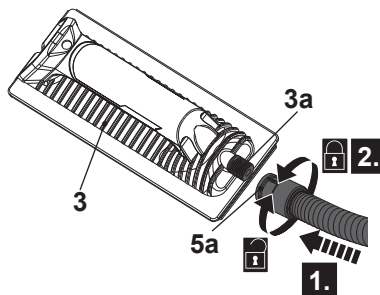

Fig. 4
- > Screw the other hose adaptor (5a) to the hose connector (3a) of the steam plate (3) in a clockwise direction. Ensure the connection is properly secured (Fig. 4).